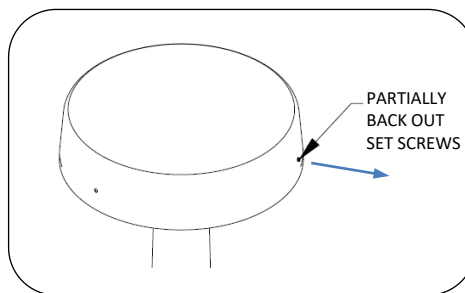
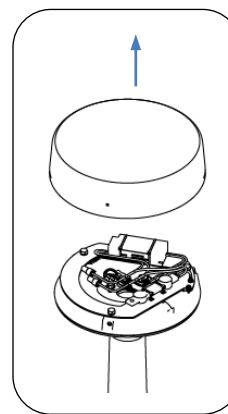

Fig. 6 – Loosen set screws
Fig. 7 – Remove dome
10. Loosen set screws in dome, see Fig. 6 and Fig. 7. Do not fully back out set screws. Set the dome aside on non-marring surface.